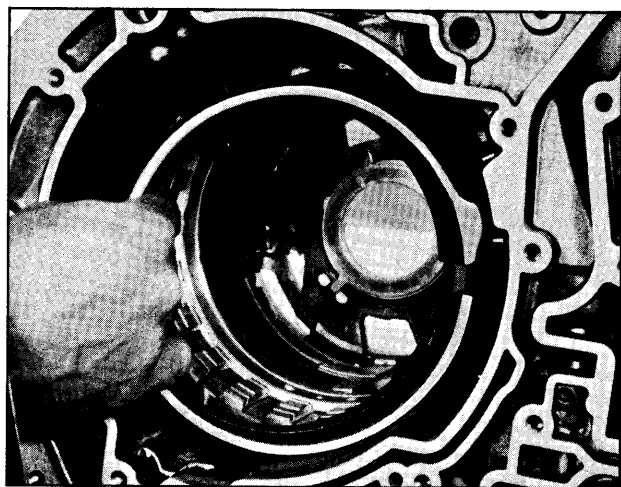

Fig. 7E-82 Removing Rear Band
7. Place the gear unit assembly with output flange facing down on work bench. (Fig. 7E-81)